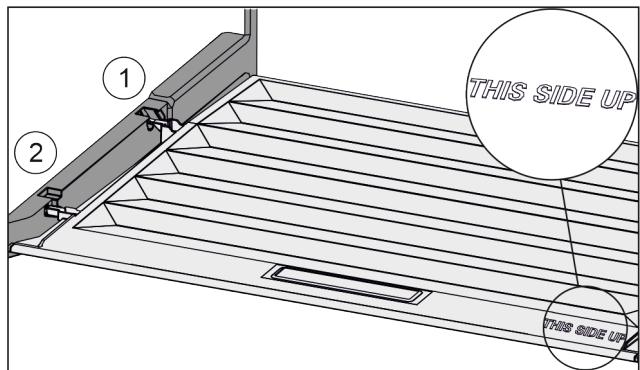

Fig. 57
- ▶ Insert the lip of the cover over the opening of the rear bracket Fig. 57 (1) and click into place Fig. 57 (2).